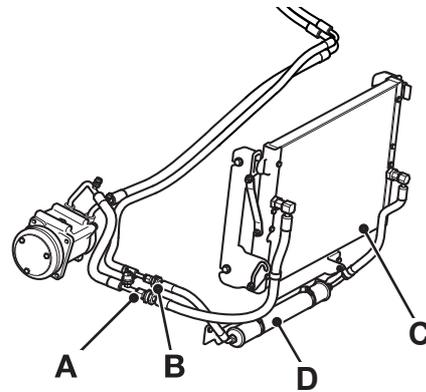

Fig 5.
- C Air conditioning condenser matrix and receiver drier (if fitted) ⇒ Fig 5. (□ K-9)